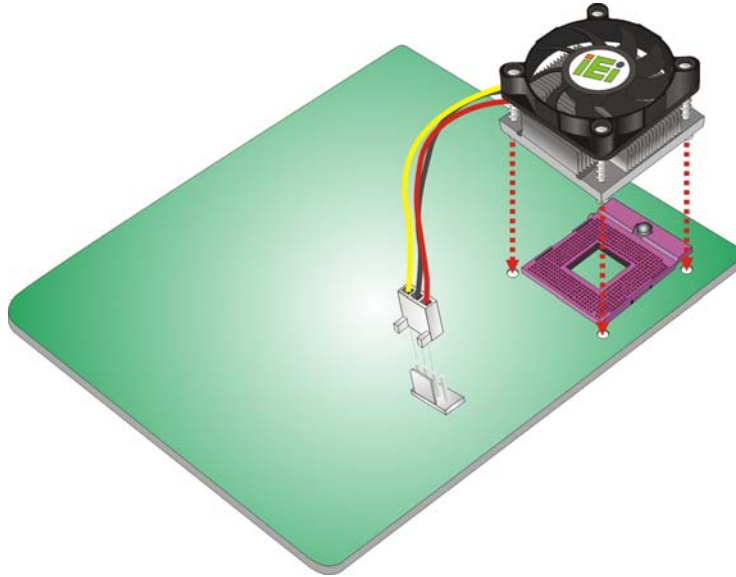

Figure 5-5: Align the Cooling Kit
Step 3: Properly align the cooling kit. Line up the four screws with the screw holes on the support bracket below the board (**Figure 5-5**).